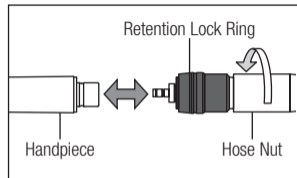

Fig. 3
- 1) Insert the coupling into the hose connector and tighten the hose nut. (Fig. 3)